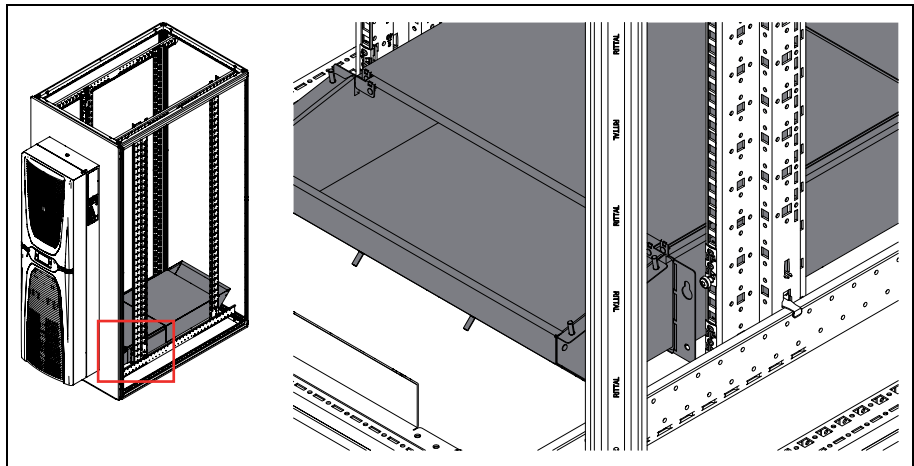

Fig. 12: Locate the air duct at the rear
- Following the same procedure as with the front of the rack, locate the air duct by aligning the keyholes with the previously inserted screws (fig. 12).